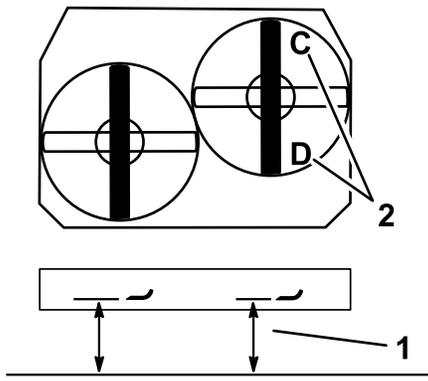

Figure 80
- Position the right blade front-to-rear (Figure 80).
- Measure the right blade at the **C** location, from a level surface to the cutting edge of the blade tip, and record this measurement (Figure 80).
- Measure the right blade at the **D** location, from a level surface to the cutting edge of the blade tip, and record this measurement (Figure 80).
Note: The mower blade should be 6 to 10 mm (1/4 to 3/8 inch) lower at position **C** than at position **D** (Figure 80). If it is not correct, proceed to the following steps.
2. Position the right blade front-to-rear (Figure 80).